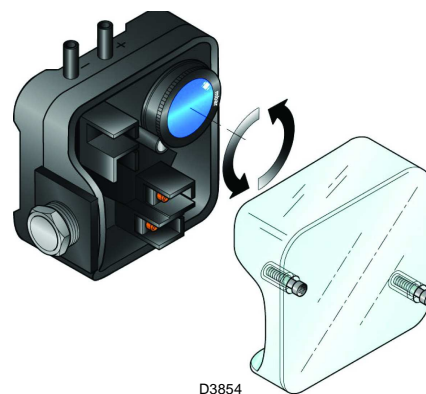

Fig. 51
- Adjust the air pressure switch (Fig. 51) to the zero position of the scale.
Adjust the air pressure switch (Fig. 51) after having performed all other burner adjustments with the air pressure switch set to the start of the scale.